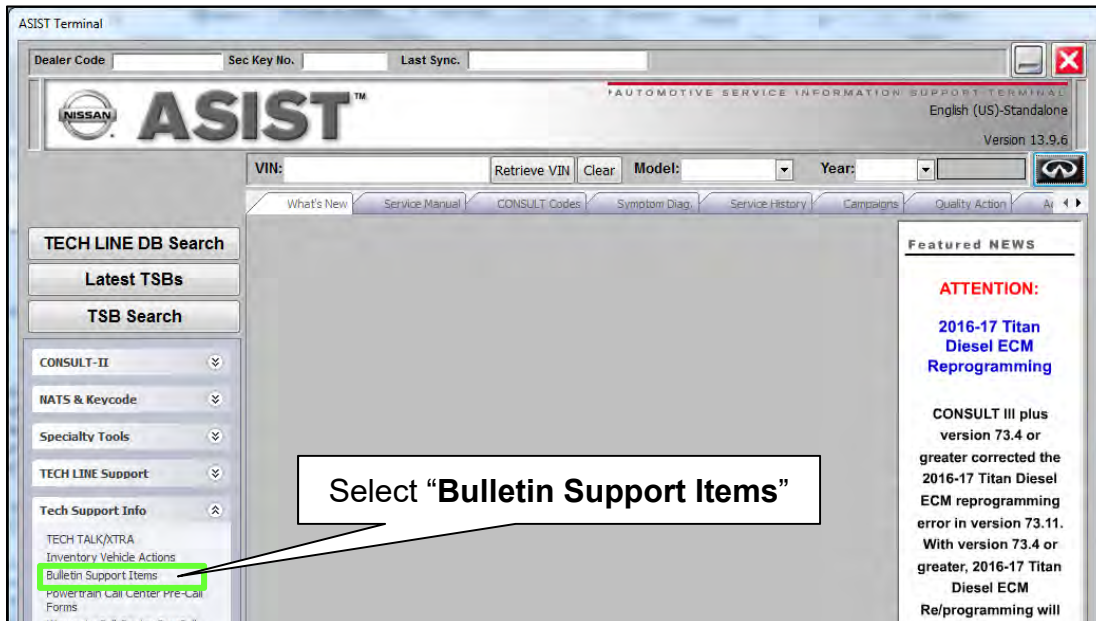
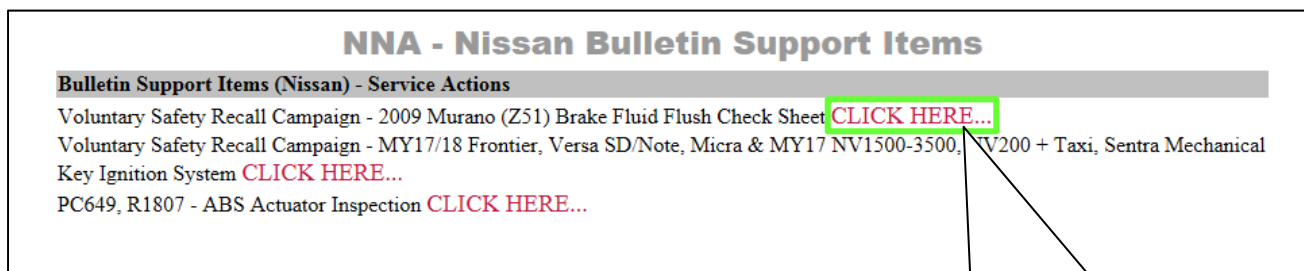

Figure 2
Figure 3
- The form can be accessed by selecting **ASIST > Tech Support Info > Bulletin Support Items > Voluntary Safety Recall Campaign – 2009 Murano (Z51) Brake Fluid Flush Check Sheet** (see Figure 2 and Figure 3).
- The form can be accessed by selecting **ASIST > Tech Support Info > Bulletin Support Items > Voluntary Safety Recall Campaign – 2009 Murano (Z51) Brake Fluid Flush Check Sheet** (see page 6, Figure 2 and Figure 3).